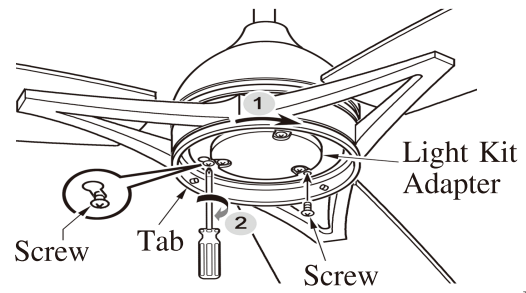

FIG.21
5. Slide the light kit place the key hole over the screws on the light kit plate. Turn light kit until it locks in place at the narrow section of key holes. Then,tighten the previously removed and loosened screws.(See fig.21)